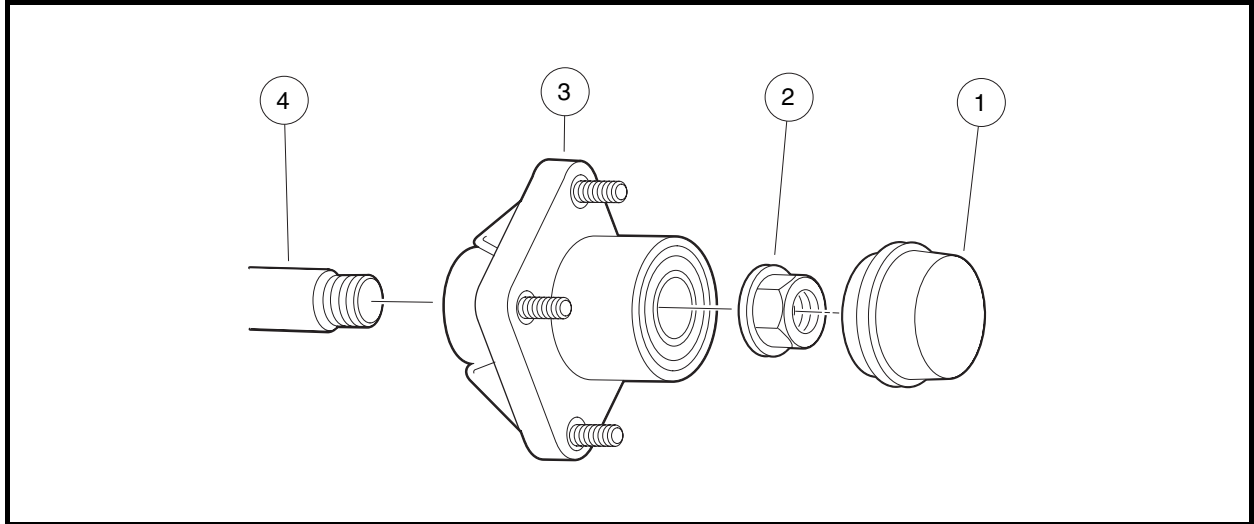

Figure 7-21 Front Wheel Hub
2. Remove dust cap (1) and lock nut (2) (**Figure 7-21, Page 7-20**).
3. Slide the hub assembly (3) off of the spindle shaft (4).
2. Slide the hub assembly (3) onto the spindle shaft (**Figure 7-21, Page 7-20**).
5. Install the dust cap (1) using a rubber mallet and tapping lightly around the edge of the cap.